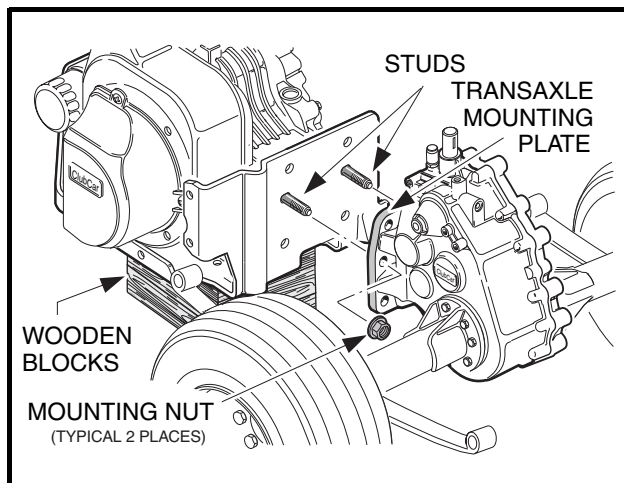

Figure 16-36 Transaxle Mounting
3. Position the transaxle mounting plate on the two mounting studs at the rear of the engine, and then install the two mounting nuts finger tight (**Figure 16-36, Page 16-16**).
5. Tighten the four corner nuts (with bolts) to 23 ft-lb (31.2 N·m). Tighten the two center nuts (on the engine block studs) to 17 ft-lb (23.1 N·m) (**Figure 16-36, Page 16-16**).